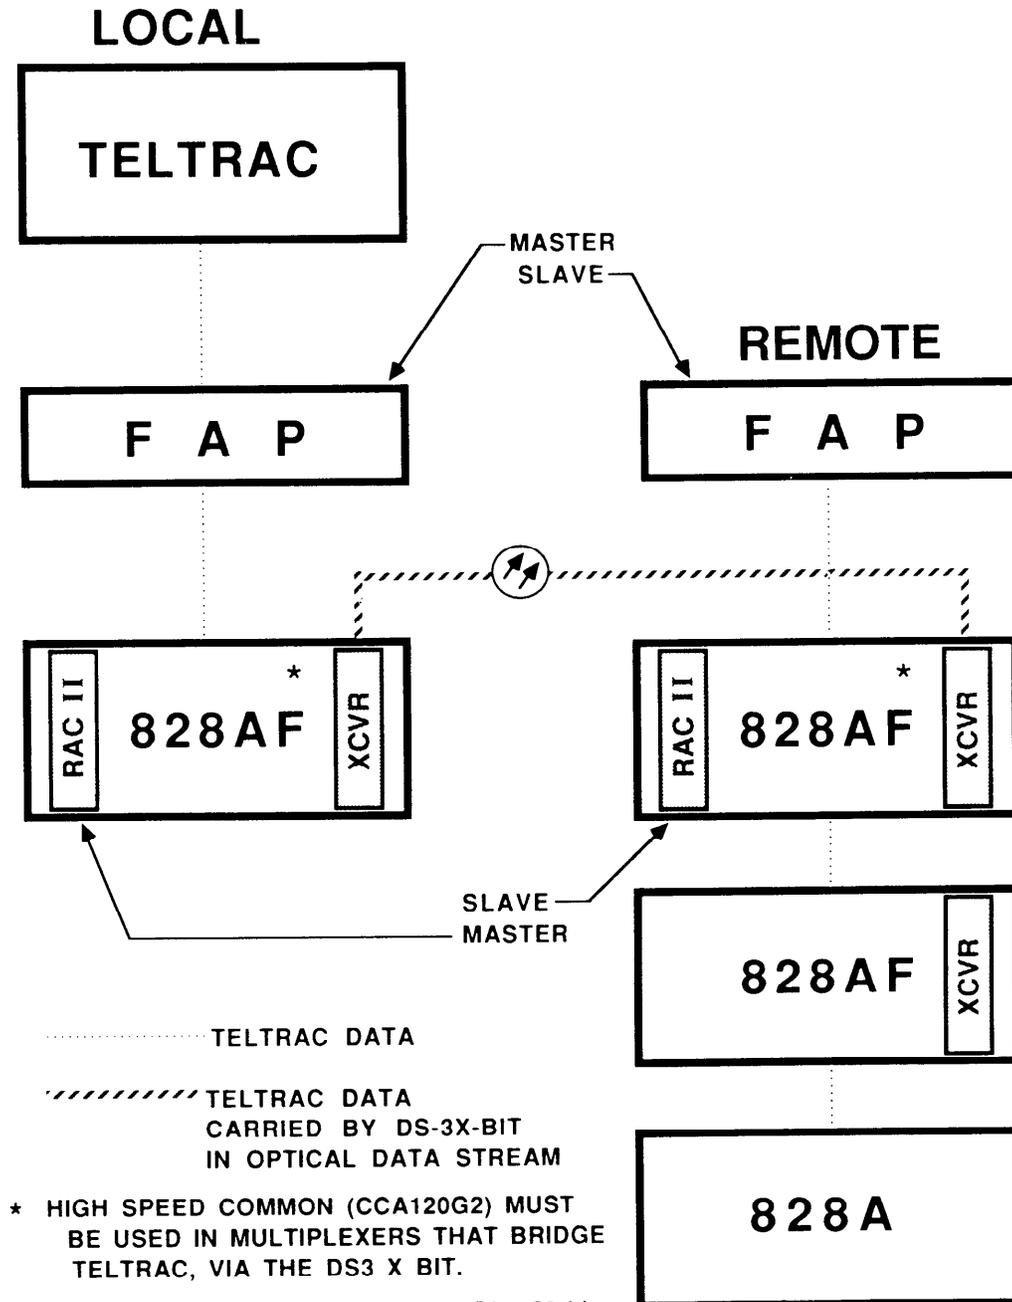

Figure 1-9. 828AF TELTRAC Extension Application
5.05 Figure 1-9 illustrates the 828AF in a TELTRAC extension application. Use of the RAC-II card enables the TELTRAC signal to be bridged onto